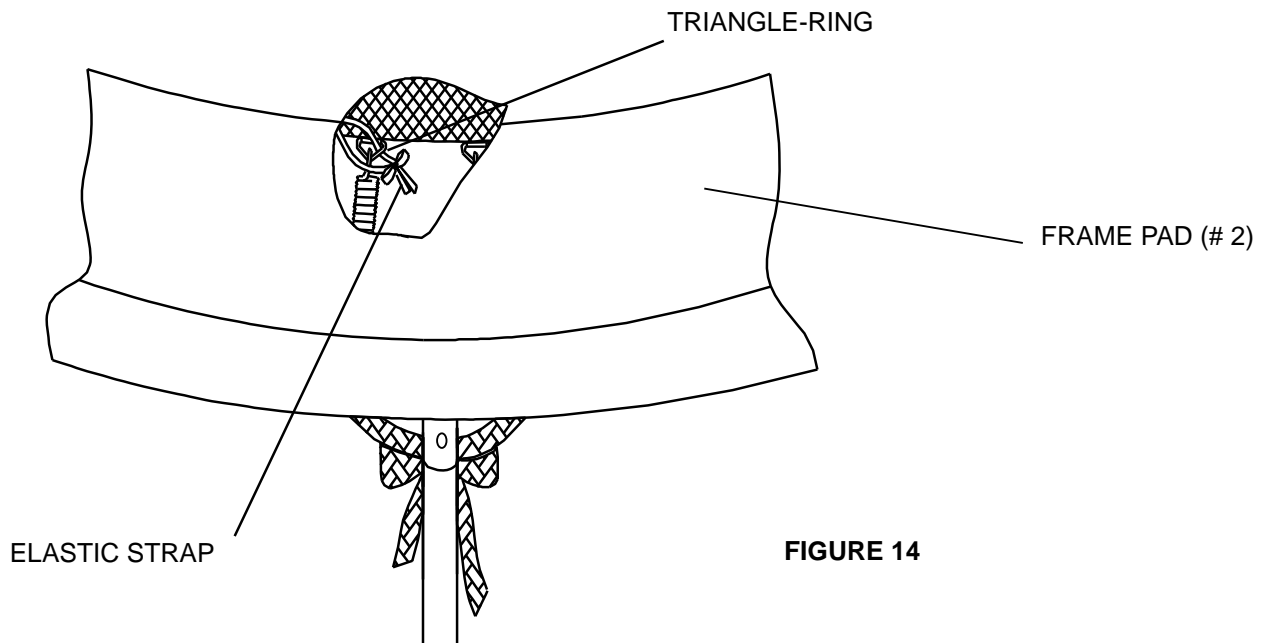

FIGURE 14
- C. Finally, wrap the elastic straps which are located next to the Trampoline Mat around the triangle-rings and tie a knot as shown in FIGURE 14. Make sure the knot is tight and the frame pad is securely attached to the trampoline. Repeat in the same manner for all the straps.